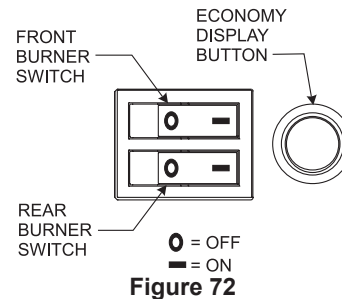

Figure 72
D. Turn both burner switches on to ignite both the front and rear burners. Burner switches must remain in the ON position for the remote to function. See Figure 72.